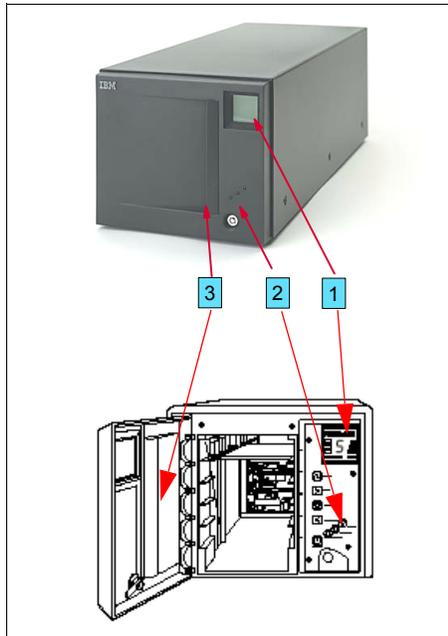

Figure 12-3 IBM 3581 front view
- ▶ Unless you choose another operation, the IBM 3581 times out 30 seconds after each operation and LdR REAdY appears in the message display (label 1 in Figure 12-3 on page 327).
The IBM 3581 has three status lights on the Operator Panel (label 2 in Figure 12-3 on page 327):
The LCD message display (label 1 in Figure 12-3) provides information about the status of the IBM 3581 and any error conditions. When in an idle (non-operating) state, the autoloader message panel displays LdR REAdY. In addition, the following characters (shown in Figure 12-4 on page 328) may appear on the left side of the display:
The IBM 3581 internal tape drive determines when the head needs to be cleaned and alerts you by displaying CT on the message display (label 1 in Figure 12-3 on page 327). This is the *only* occasion when a cleaning cartridge should be used. The IBM 3581 supports three methods of cleaning the drive: